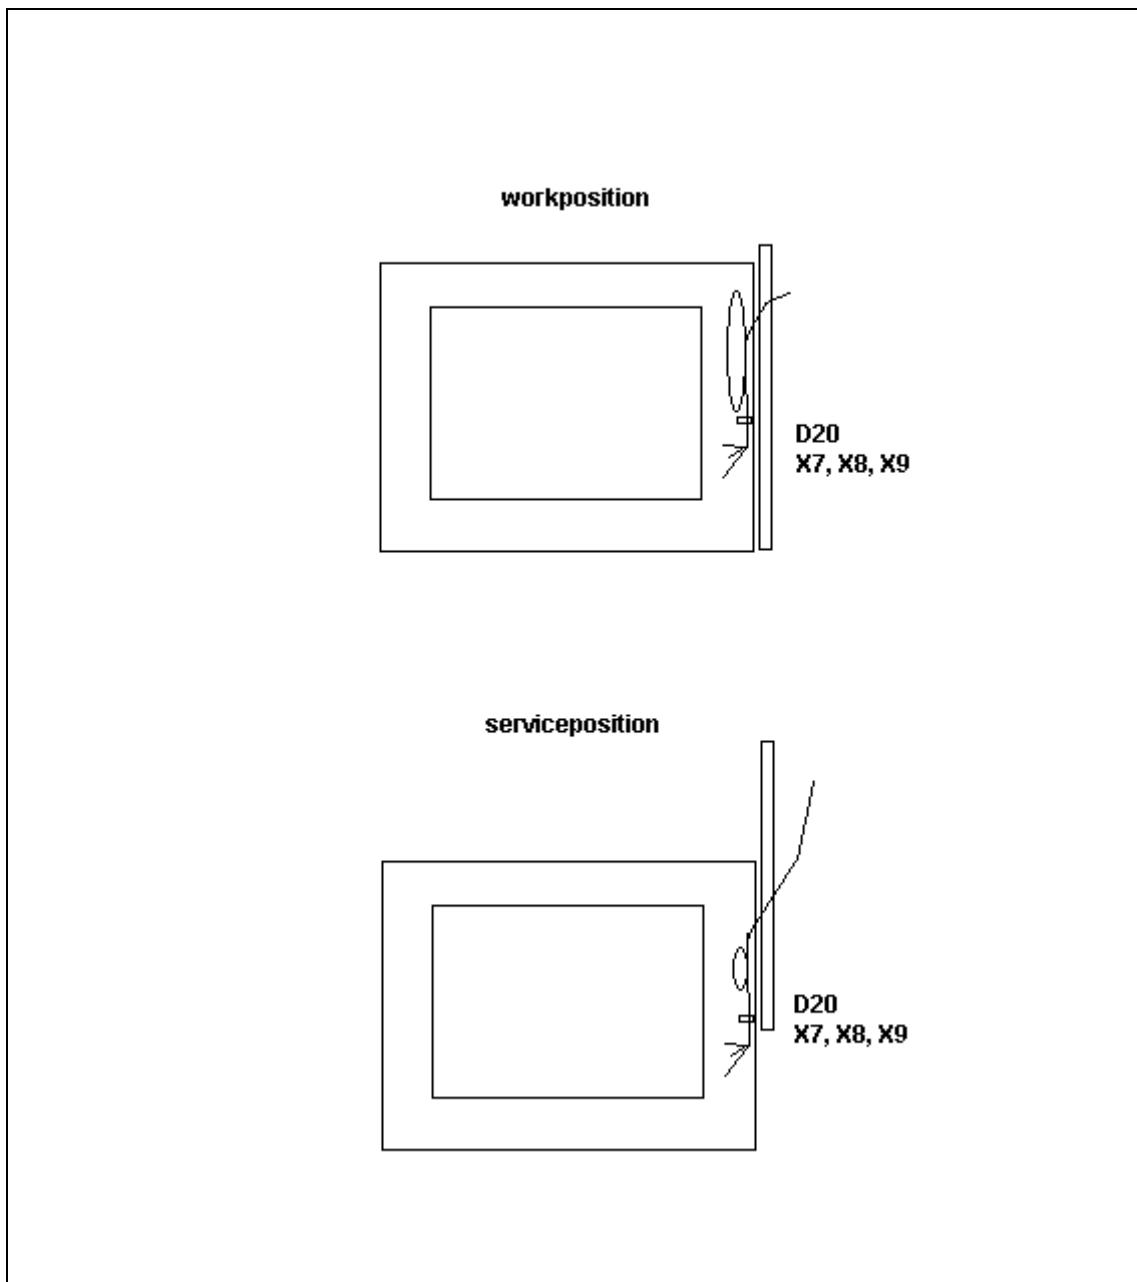

Fig. 12
- Cables D20, X7, X8, and X9 should be fastened to the cable clamps with a torque of 4.8 Nm. Loop the cables and attach the shield as shown in Fig. 12. Ensure that the cables do not become crimped or torn when moving the generator.